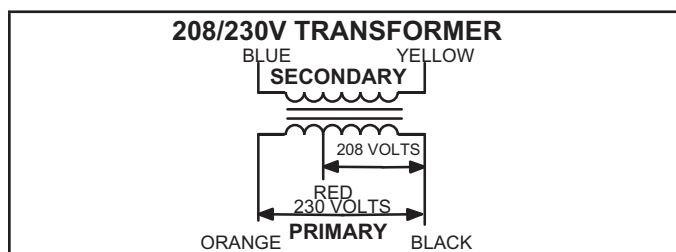

FIGURE 2
All use a single line voltage to 24VAC transformer mounted in the control box. Transformer supplies power to control circuits in the unit. The transformer is rated at 70VA and is protected by a 3.5 amp circuit breaker (CB8). The 208/230 (Y) voltage transformers use two primary voltage taps as shown in FIGURE 2, while 460 (G) and 575 (J) voltage transformers use a single primary voltage tap.